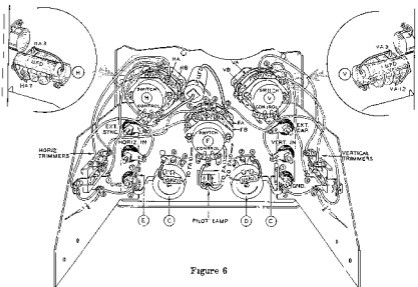

Figure 6
Refer to Figure 6 for the following steps.
- (✓) Mount FREQUENCY switch F (#63-200) on the front panel using a control lockwasher, control flat washer and a control nut. Orient the switch as shown in Figure 6.
- (✓) Cut off the excess length from the free lead of the 15 KΩ resistor coming from lug 3 of control D. Now connect this lead to switch lug FA10 (NS).
- (✓) Cut the other pilot lamp lead to 1-3/4" and place 1-1/2" of sleeving over it. Now connect this lead to lug 2 of control F (NS).
- (✓) C-13. Connect a .1 μfd 600 V capacitor from switch lug HA3 (NS) to HA7 (S-1). Orient as shown and use sleeving on each lead.
Refer to Figure 6 for the next step.